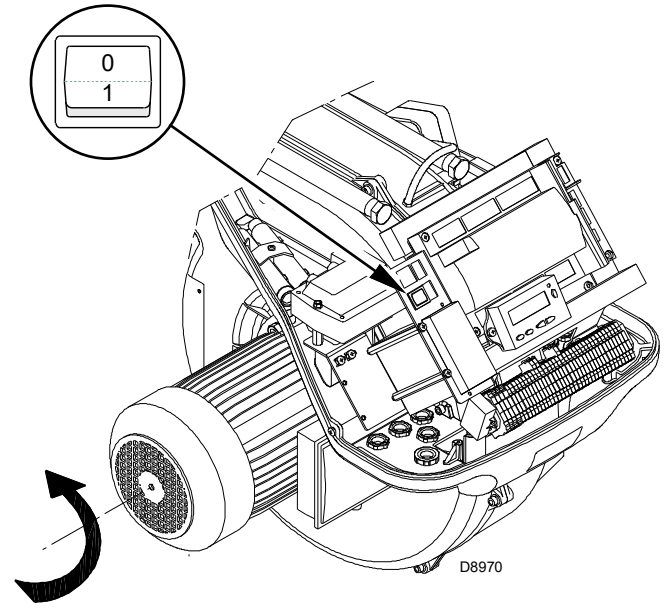

Fig. 30
Close the thermostats/pressure switches and turn the switch of Fig. 30 to position "1".
As soon as the burner starts up, go in front of the cooling fan of the fan motor and check it is rotating anticlockwise. See Fig. 30.
- place the switch of Fig. 30 in position "0" and wait for the flame control to carry out the switch-off phase;
The burner is in the heat request waiting mode, or the selector “0-1” (Fig. 30 at page 34) is at “0”.
With the selector “**0-1**” (Fig. 30 at page 34), the burner does not stop immediately, but the switch-off phase is activated.